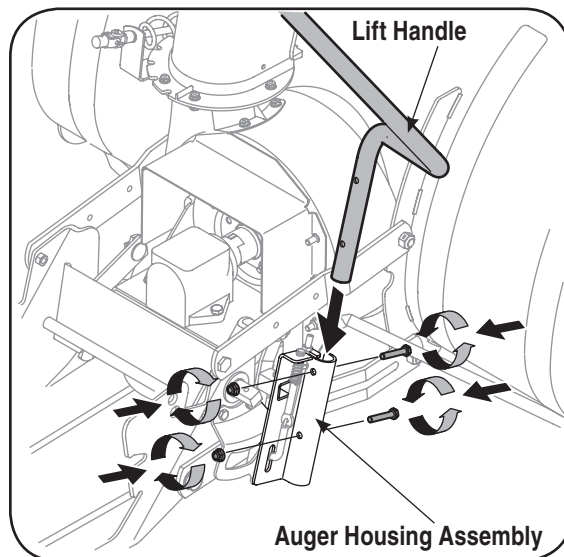

Figure 6-3
1. Attach lift handle to lift bracket on the right side of auger housing assembly with two hex screws and two flange nuts provided. See Figure 6-3.